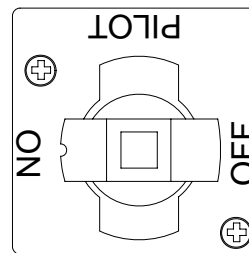

Figure 2
4. After the pilot remains lit, turn the knob counterclockwise to the ON position. See Figure 2.